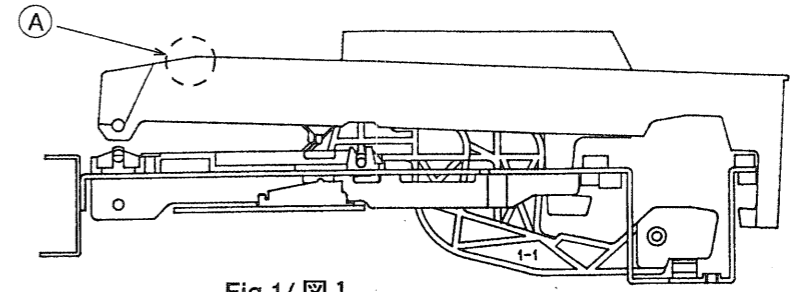

Fig.1/ 図1
Locate the key as shown in Fig. 1 and push the dotted area in the direction of arrow A.
• Key を図1のように置き、点線部分を矢印 A の方向に押す。
As shown in Fig. 1, pass the hammers into respective holes in the chassis and fit them into the U-grooves in the key base.